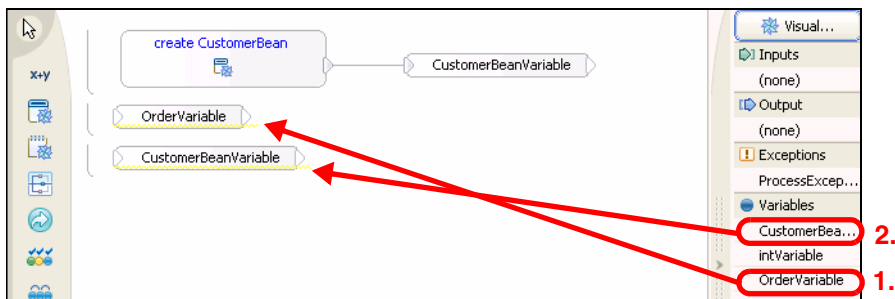

Figure 16-21 Visual Snippet: Dragging variables on to the canvas
- ▶ In the right hand pane, select OrderVariable and drag it on to the canvas. Then repeat for CustomerBeanVariable (Figure 16-21).